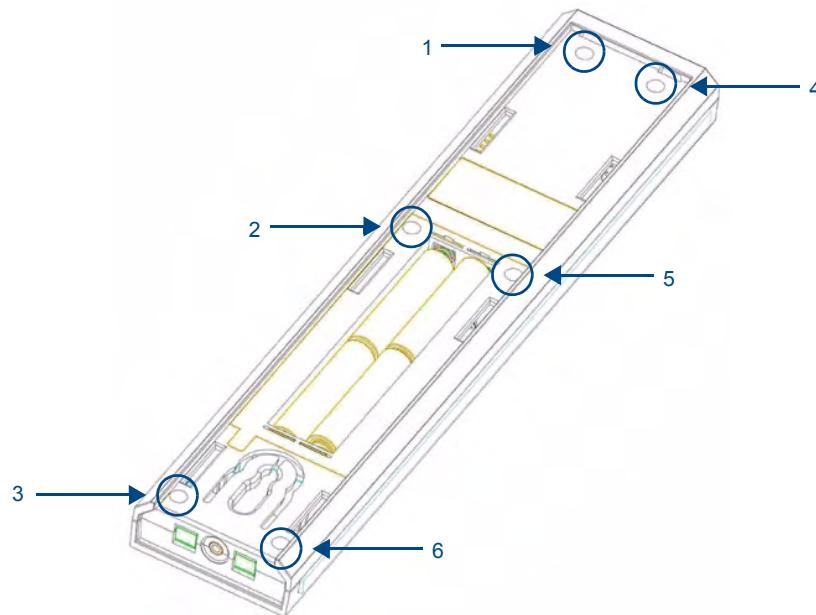

FIG. 2 6 screwpoints (battery compartment cover removed)
3. Unscrew the 6 screw points indicated in FIG. 2.